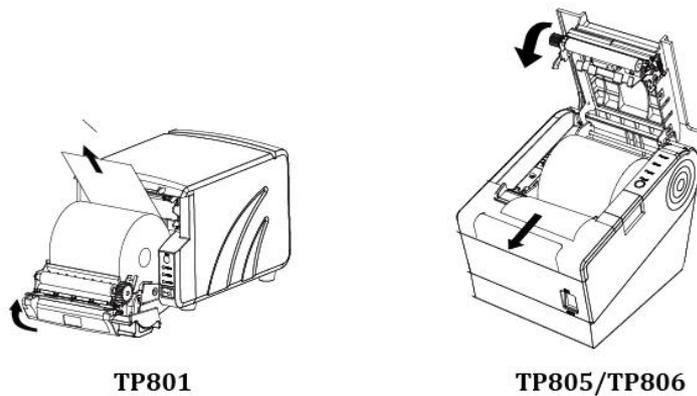

Figure 4.6.3
4) Close the top cover of TP805\TP806 or front cover of TP801. (Like figure 4.6.3)